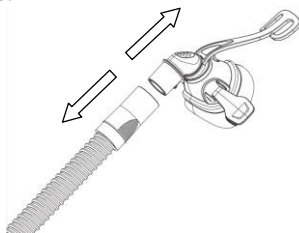

Fig. 18-6
(3) Hold both the cuff of the air tubing and the swivel of the mask, then gently pull apart as shown in Fig. 18-6.